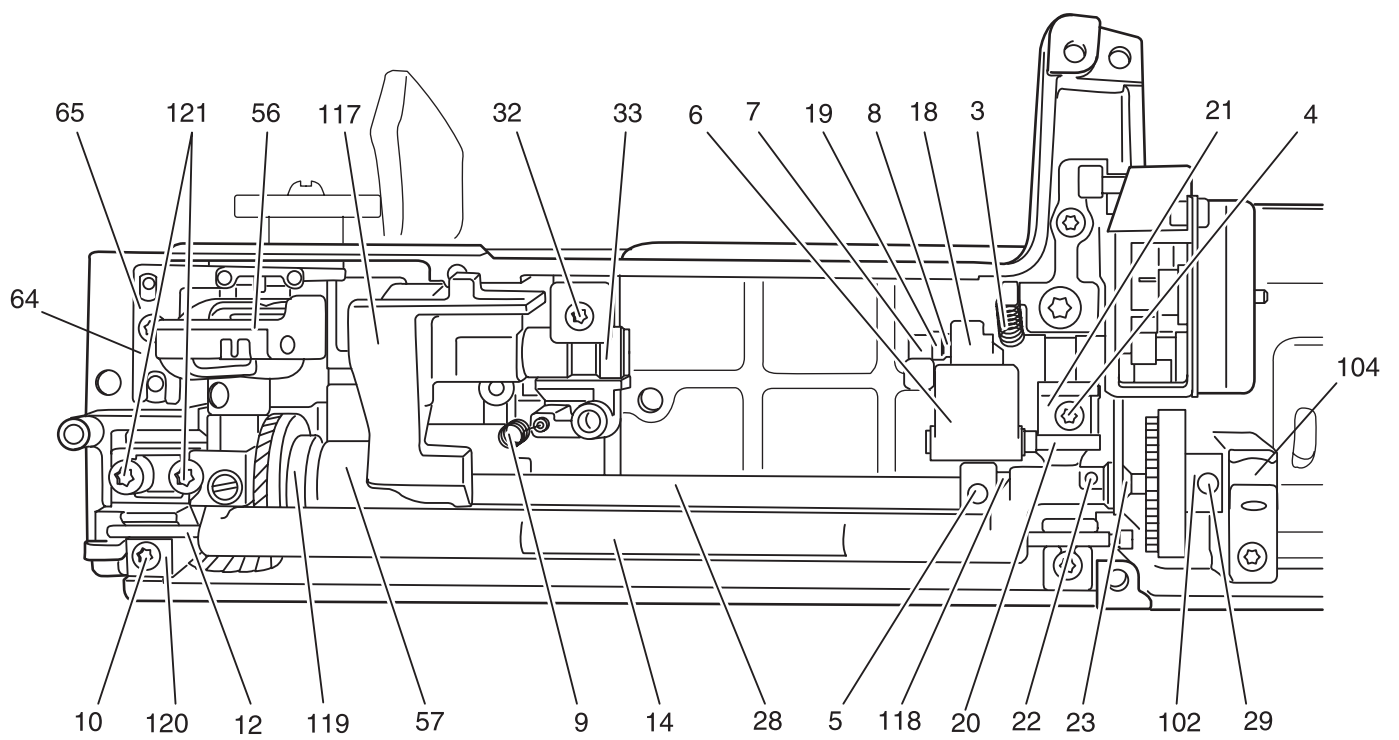

Fig. 70
- Dismantle feed-dog lowering mechanism 117 (fig. 70).
- Move hook driving shaft 28 as far as possible to the right (fig. 70).
- Fasten the sewing hook bearing using both screws 121 (fig. 70).
- Press lower flat-toothed belt socket 102 to the right against calotte bearing 104 (fig. 70).